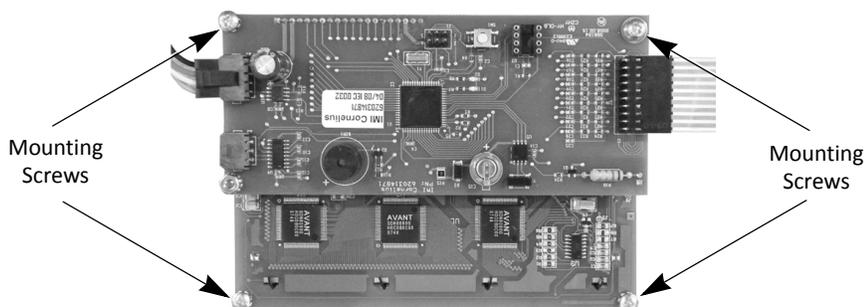

Figure 54. View of Display Board
The display board is located on the back of the control panel display. It is mounted to the panel with four (4) Philips head screws, shown in Figure 54.